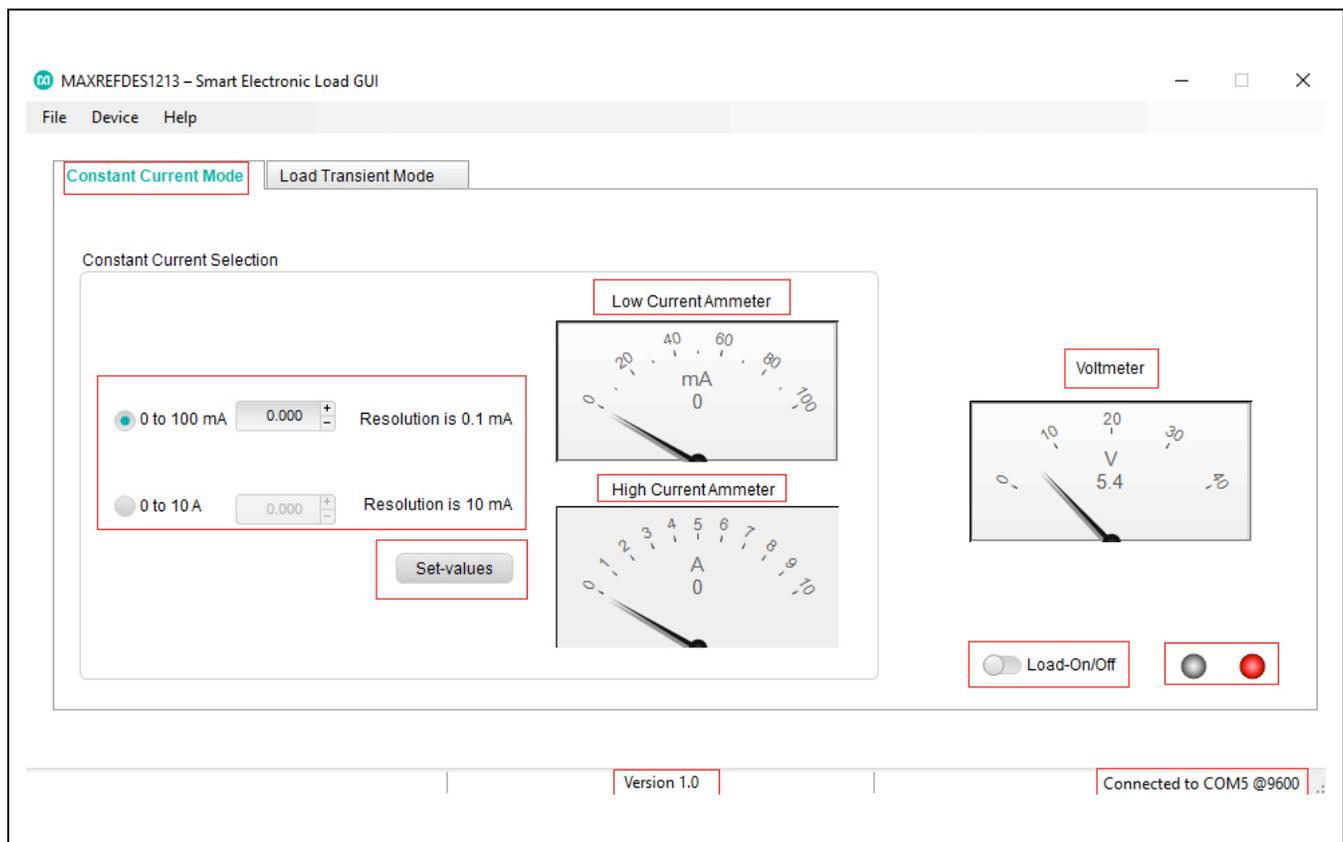

Figure 6. Constant Current Mode tab with the load turned off, and the indicator stays red.
5) Clicking the **Connect** button will cause the program's main window to appear, as shown in Figure 6. Of the two tabs in the window, the **Constant Current Mode** tab is selected by default. Using the controls on this tab sets the load to a constant current for one of the two current ranges shown. The following is a list of software controls followed by a short description for each: